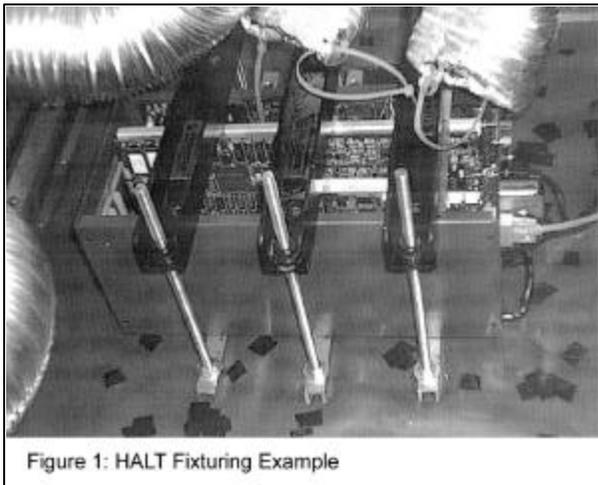

Figure 1: HALT Fixturing Example
The vibration fixturing used in HALT is very different from that used when testing with typical Electro-Dynamic (ED) or hydraulic shakers. In HALT, the fixture is not designed to mimic the real-life mounting of the product. Instead, it is designed to maximize the transmission of energy into the product to speed the precipitation of failures. This results in simple, inexpensive fixturing with the goal of simply clamping the product to the vibration table as tightly as possible. Figure 1 shows a typical product fixtured in a HALT chamber. To maximize air flow through the product as